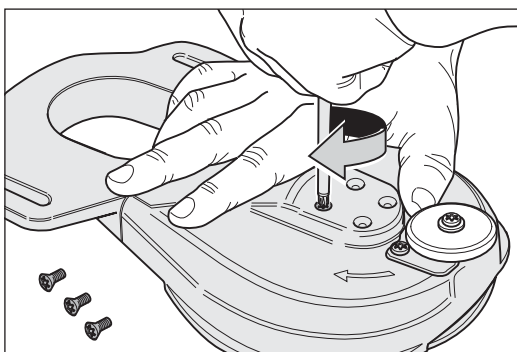

Fig. 40 Tighten the four screws for attaching the complete sanding plate.
- 4 Turn the attachment over and tighten the four screws for attaching the complete sanding plate using the universal spanner (Fig. 40).